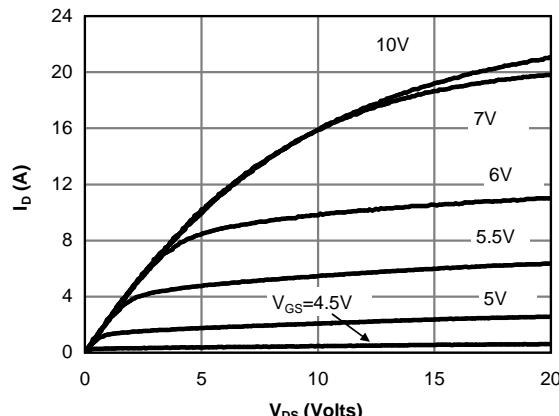

Figure 1: On-Region Characteristics@25°C
E. The static characteristics in Figures 1 to 6 are obtained using $<300\ \mu\text{s}$ pulses, duty cycle 0.5% max.